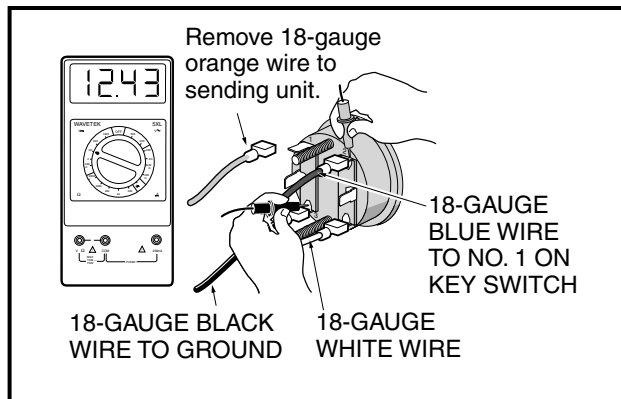

Figure 11-54 Fuel Gauge Test
6. Set a multimeter to 20 volts DC and place the red (+) probe of the multimeter on the (2) terminal of the fuel gauge/hour meter with the blue wire. Place the black (–) probe on the (3) terminal of the fuel gauge/hour meter with the black wire (**Figure 11-54, Page 11-46**).
8. Turn the key switch ON. The voltage reading should be the same as the battery voltage reading recorded earlier. If not, check the continuity of the blue and black wires (**Figure 11-54, Page 11-46**).